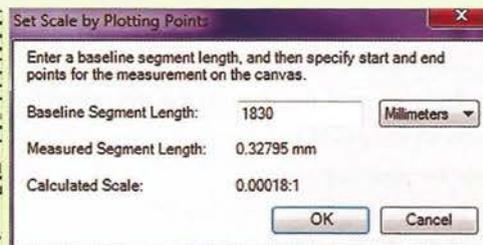

Fig 53: Scale by Plotting Points
- On the canvas, trace the width of the south entry door as the baseline segment by clicking to specify the start point and clicking again to specify the end point (Figure 53).